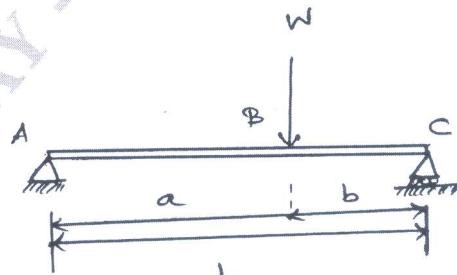

Fig. Q7(b)
b. Determine the bending moment at the point B in the simply supported beam ABC shown in Fig.Q7(b).